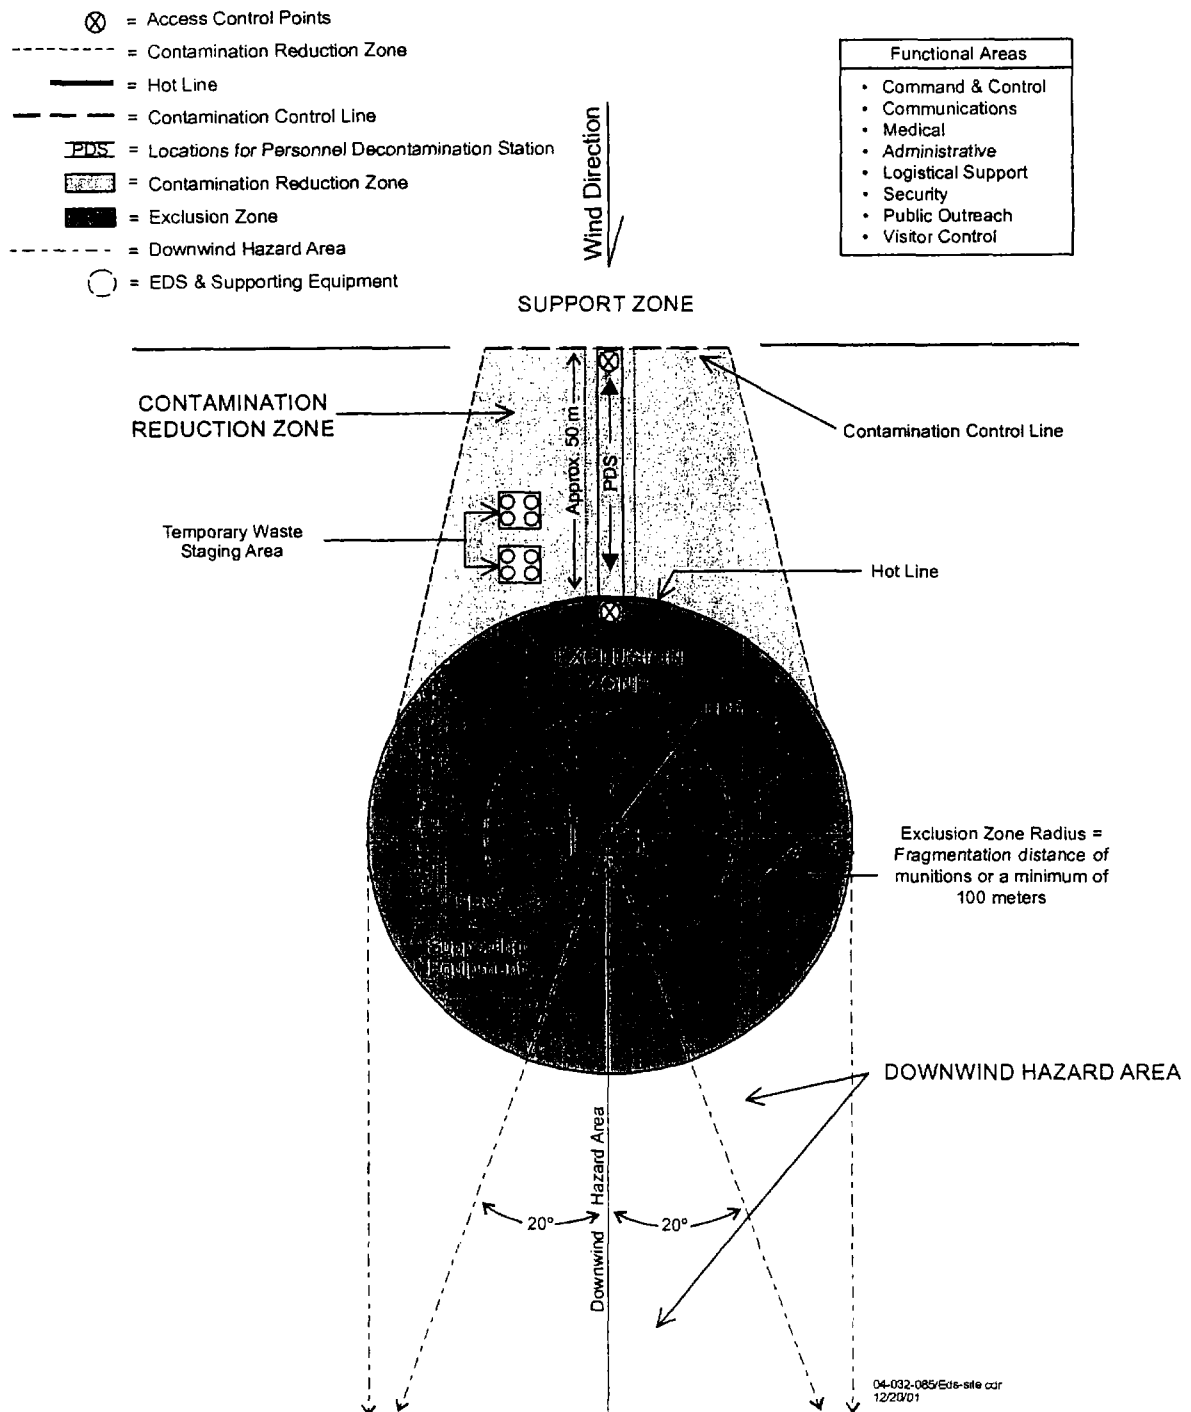

Figure 1-2. Generic Exclusion Zone Layout
**See Figure 1-2 for a generic layout of the EDS site Exclusion Zone.**